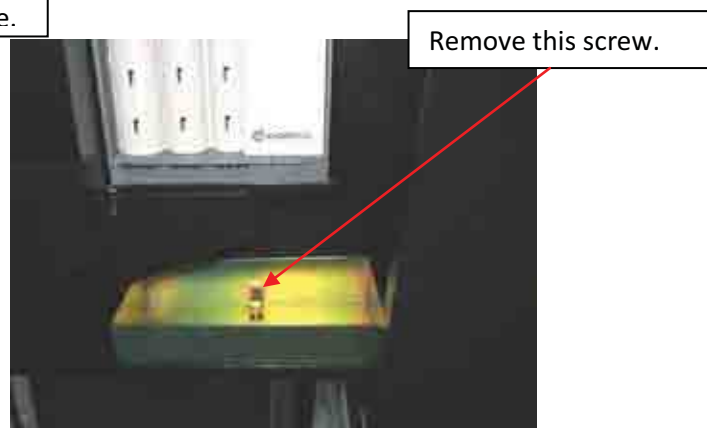

Figure 39
- Remove the screw that secures the coin box, so that the coin box can be taken out of the control unit (Figure 39).